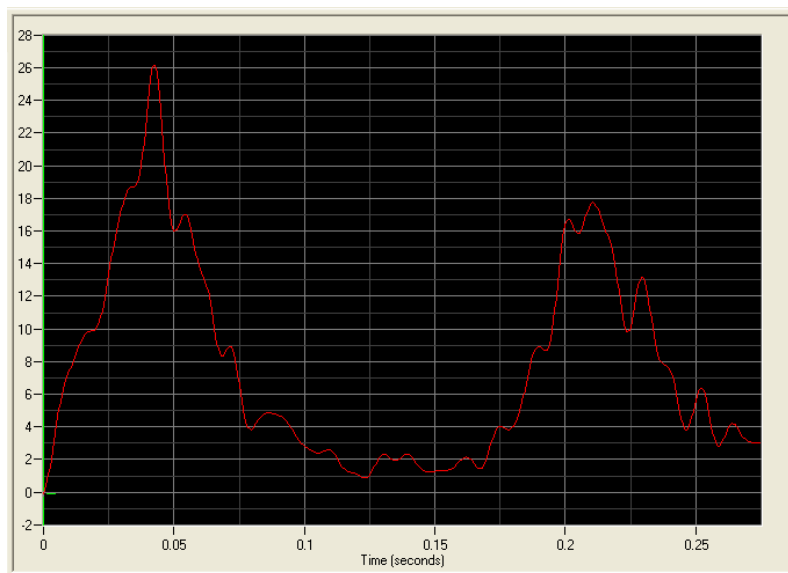

Figure 13:
30. Click the **Apply** button, followed by the **Close** button. Your graph will automatically update to show the results of the filter on your plotted data shown below in Figure 13.